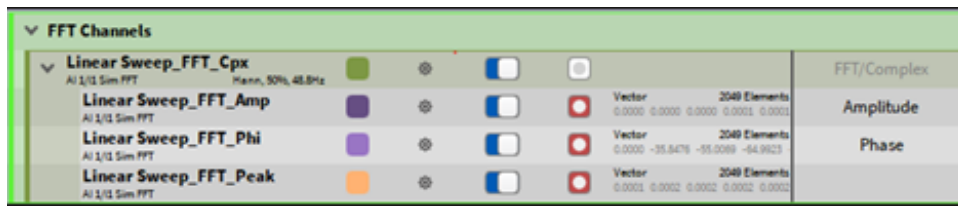

Fig. 7.85: FFT channels within the channel list
- After pressing the Add button, the FFT for the selected input channel(s) will be calculated and the Output channels will be visible within the *FFT Channels* topology in the Channel List (see Fig. 7.85).